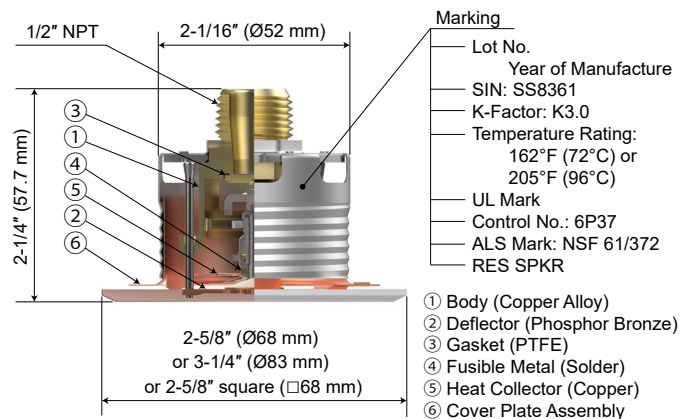

Figure 1: Model RC-RES K = 3.0
• Physical Characteristics: Ref. Figures 1 and 1.1